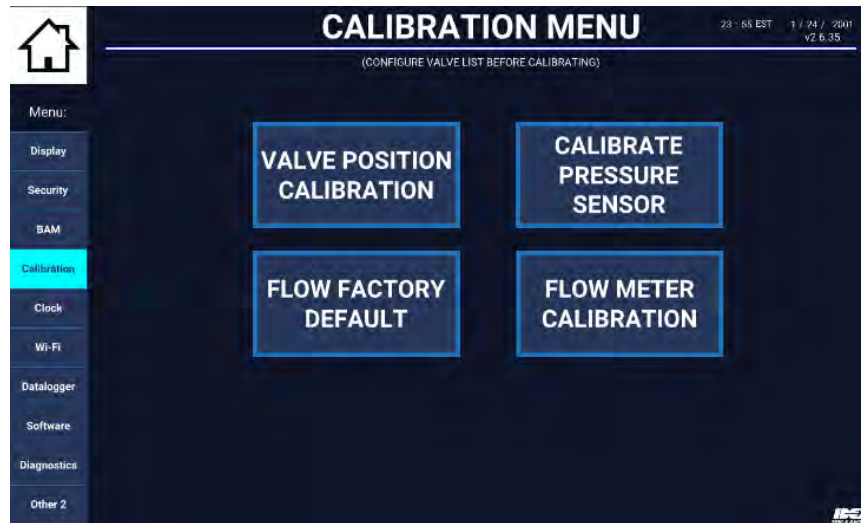
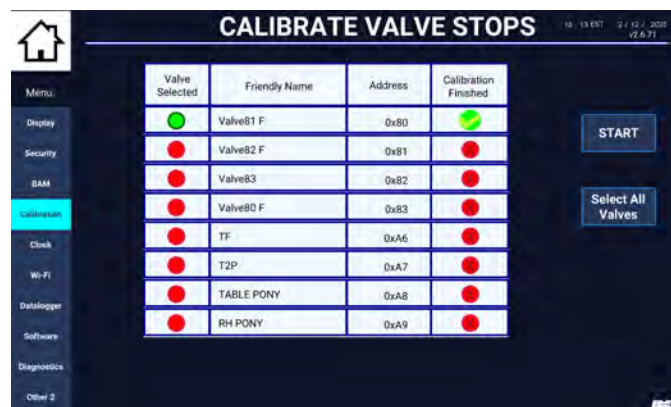

Figure 141. Valve Calibrate Menu
Figure 144. Calibrate Valve Stops Screen–Selected And Active
Three separate calibrations are available from the SAM System Options, Calibration tab, CALIBRATION MENU screen (Figure 141): Valve Stops, Calibrate Pressure Sensors, or Flowmeter Calibration. Each of the calibrations must be run for every Akron Brass Swing-Out™ valve on the Red (discharge valves) and GREEN (auxiliary intake valves, tank fill, and tank-to-pump valves CAN) bus.
- Touch desired bus button (Red or Green) (Green is the default selection). See Figure 141 thru Figure 144.
- Verify status of each valve, touch Select box for each valve displaying a Not Calibrated status (and any additional desired valve or valves). See Figure 144.
- Touch START button. Monitor Status of each selected valve. See Figure 144.